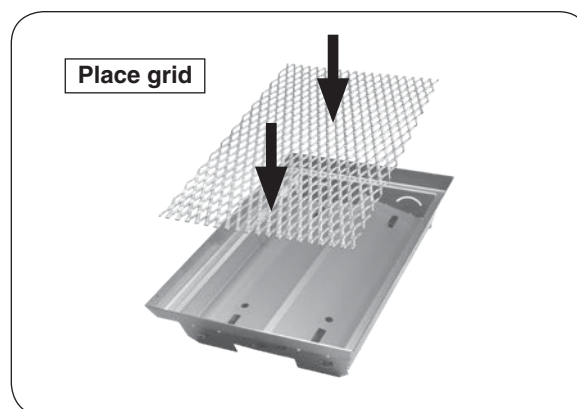

Fig. 32-2 Place grid inside basket
1. Place grid inside the basket frame (see Fig. 32-2).